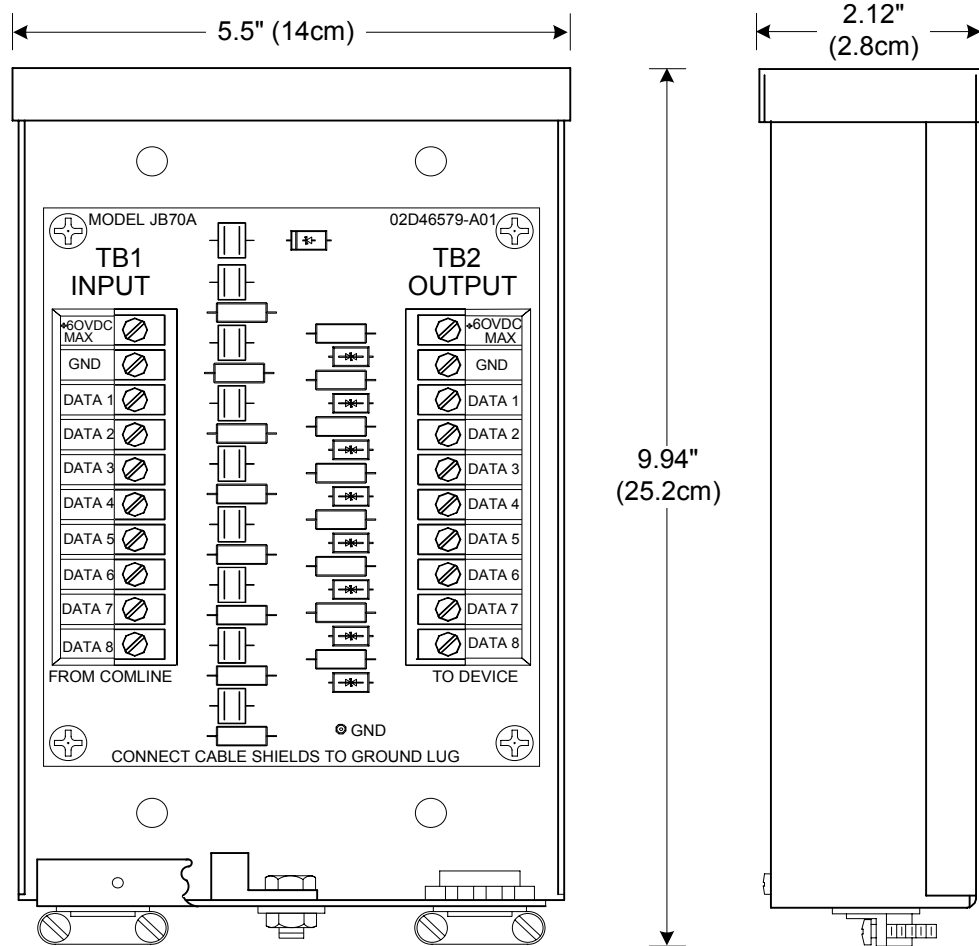

Figure 2.8 - JB70A
The JB70A provides protection against lightning, EMI, RFI, and other induced voltages through the use of gas discharge and transorb devices. The JB70A offers a weatherproof enclosure for protection of eight (8) data signal lines and two (2) power lines. The box includes two installed 1/2" (12.7mm) strain relief's for the signal and power lines. Four mounting holes are spaced for 2 1/2" (63.5mm) u-bolts, clamps or unistrut (not provided) for pole mounting, or lagging into side of building. The holes diameter is .375 inches (9.5mm). The power lines clamp at 75 VDC and the data lines clamp at 18 VDC. The JB70A is shown in Figure 2.8.